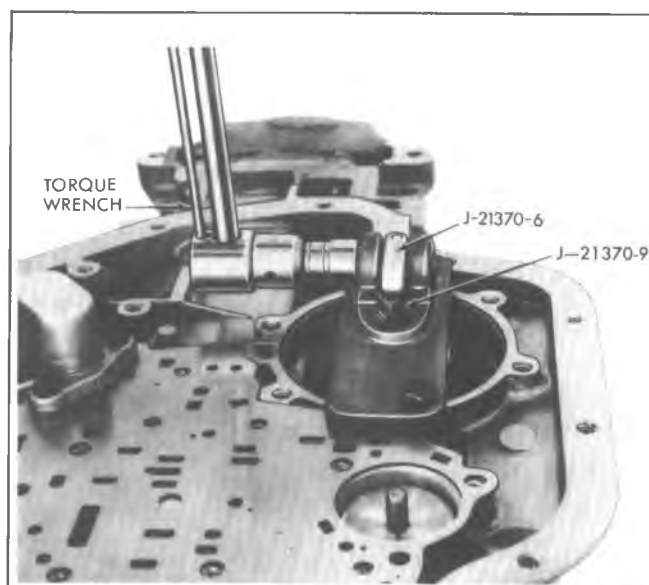

Fig. 7A-16C--Checking Rear Band Apply Pin, Models CD and CL
**NOTE:** There are six selective pins identified as shown in Figure 7A-17C. Selecting proper pin is equivalent to adjusting band.